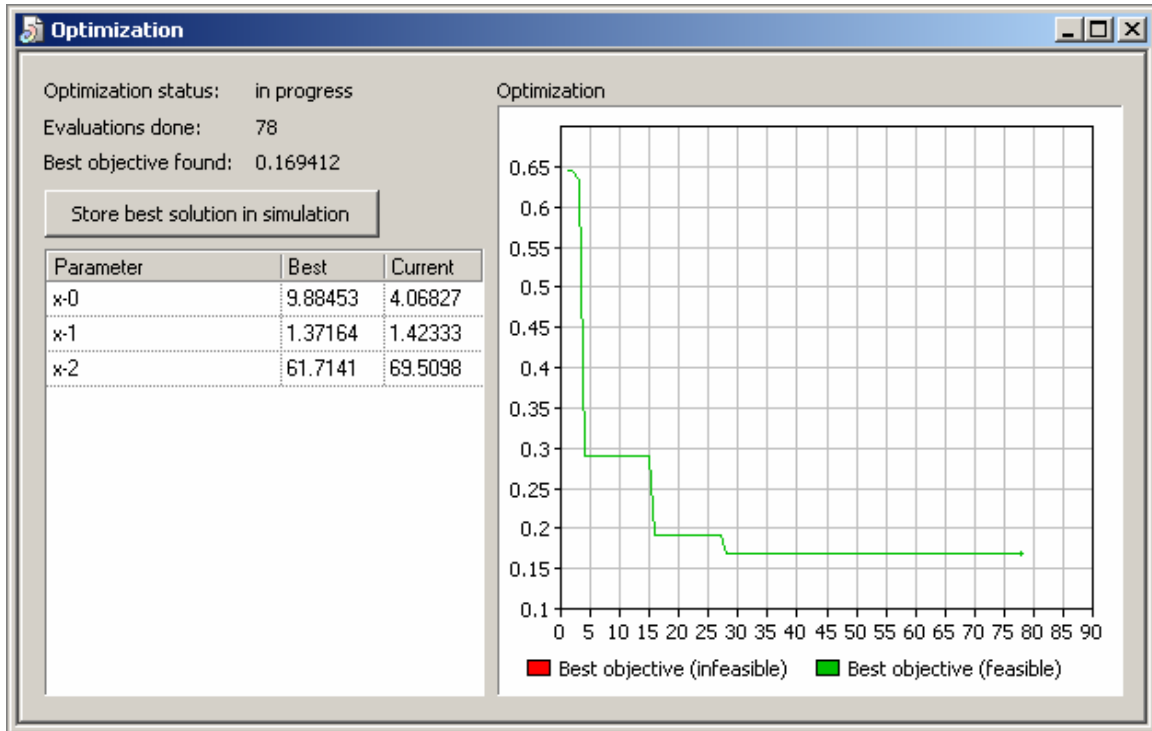

Figure 163. Optimization window
This starts the optimization process and opens the Optimization window as shown in Figure 163.
- If the optimization engine finds all solutions to be infeasible (drawn red on the *Optimization* chart, see Figure 163), this indicates that there is no solution in the parameter space satisfying all the constraints. Possible reasons for this are: